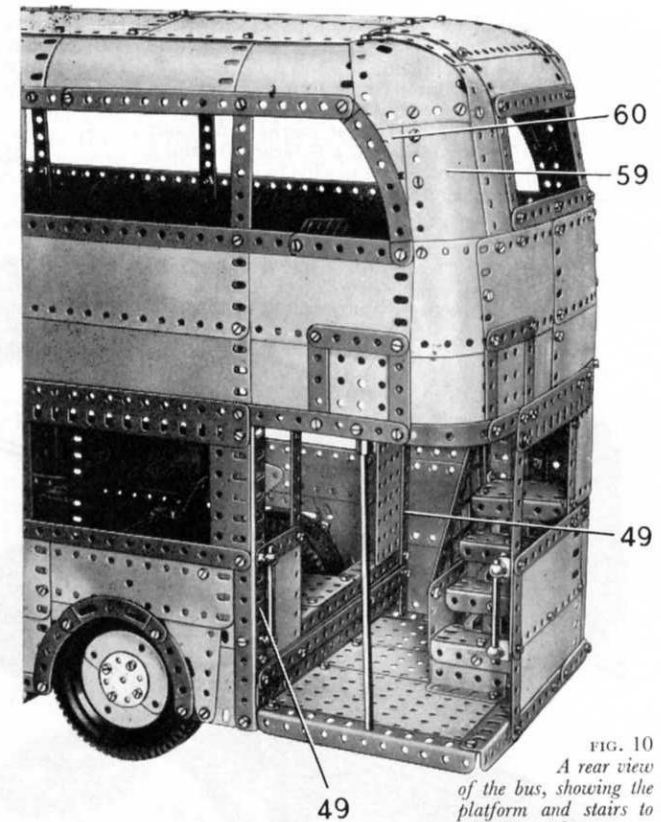

FIG. 10
two $5\frac{1}{2}"$ \times $2\frac{1}{2}"$ Flexible Plates edged by Strips (Fig. 10) and connected to a $5\frac{1}{2}"$ Flat Girder by two vertical $3\frac{1}{2}"$ Strips that form the sides of the rear window frame.
The upper panelling at the rear of the body is completed by a $4\frac{1}{2}"$ \times $2\frac{1}{2}"$ Flexible Plate (59) (Fig. 10), a $5\frac{1}{2}"$ \times $1\frac{1}{2}"$ Flexible Plate and a $3\frac{1}{2}"$ \times $2\frac{1}{2}"$ Triangular Flexible Plate. On the near side a $2\frac{1}{2}"$ \times $1\frac{1}{2}"$ Triangular Flexible Plate (60) is bolted in position, but on the off-side this is replaced by a $3\frac{1}{2}"$ \times $1\frac{1}{2}"$ Triangular Flexible Plate. The plating above the rear window of the upper saloon consists of two $4\frac{1}{2}"$ \times $2\frac{1}{2}"$ Flexible Plates and two $2\frac{1}{2}"$ \times $1\frac{1}{2}"$ Flexible Plates.